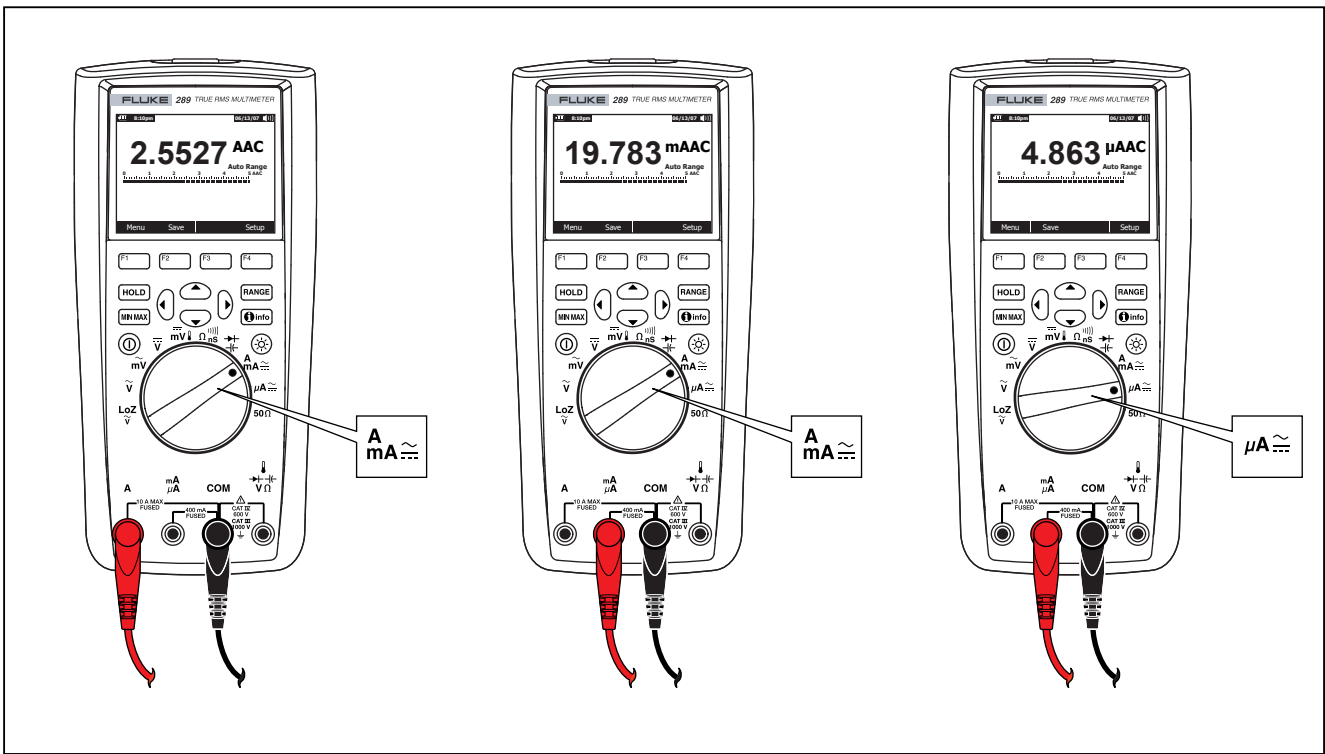

Figure 21. Current Measurement Setup
3. If you are using the A terminal, set the rotary switch to $\overset{A}{\text{mA}} \approx$. If you are using the mA/μA terminal, set the rotary switch to $\mu\overset{A}{\text{mA}} \approx$ for currents below 5000 μA (5 mA), or $\overset{A}{\text{mA}} \approx$ for currents above 5000 μA. See Figure 21 for test lead connections and function selection. Refer to the "Input Alert Feature" section for information on the alerts the Meter uses when leads are not used correctly for current measurements.